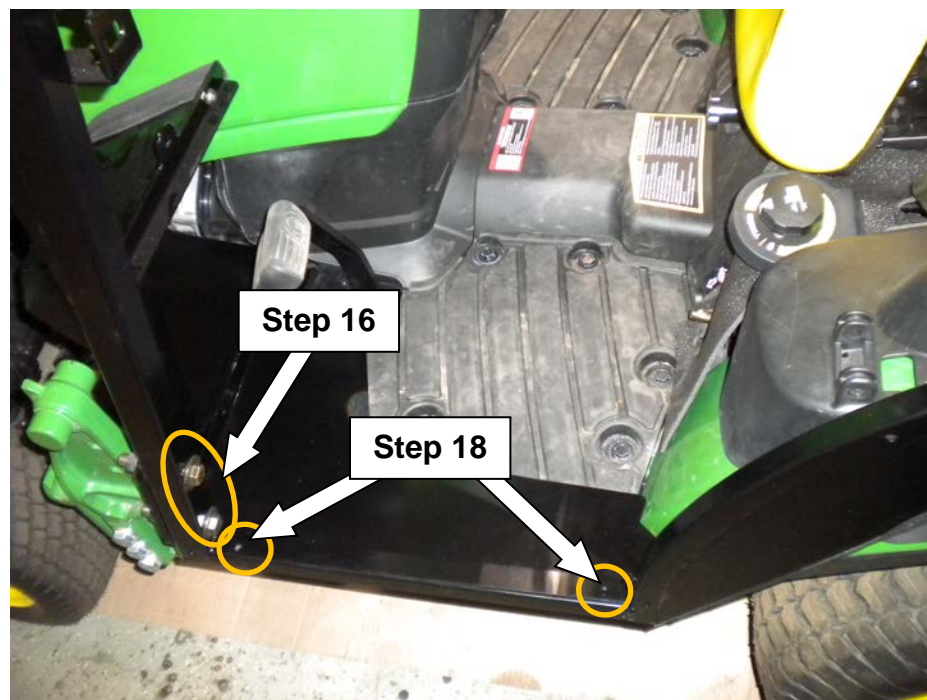

Figure 7
16. Lower cab onto tractor and loosely secure front of cab using (**Figure 7**);
18. Secure LH deck plate (19) to LH cab frame tube using **(Figure 7)**;